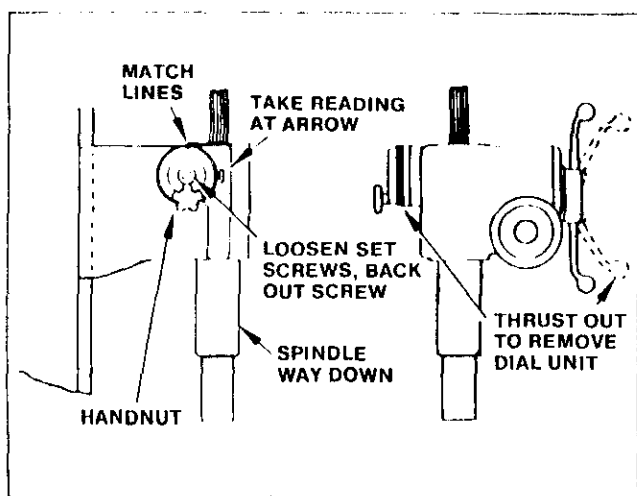

Figure M-7. Feed Dial Removal
5. To replace the feed trip dial, run the spindle down to the end of its travel (see Figure M-7). See that the scribed lines on the rim of the dials are in line and then place the dial back on the stud so that the arrow points at the **SAME FIGURE** as it did when the dial was removed.
10. After the desired setting is obtained, lock the lock screw (Figure M-7) against rotation by tightening the two small set screws in the head of the screw.